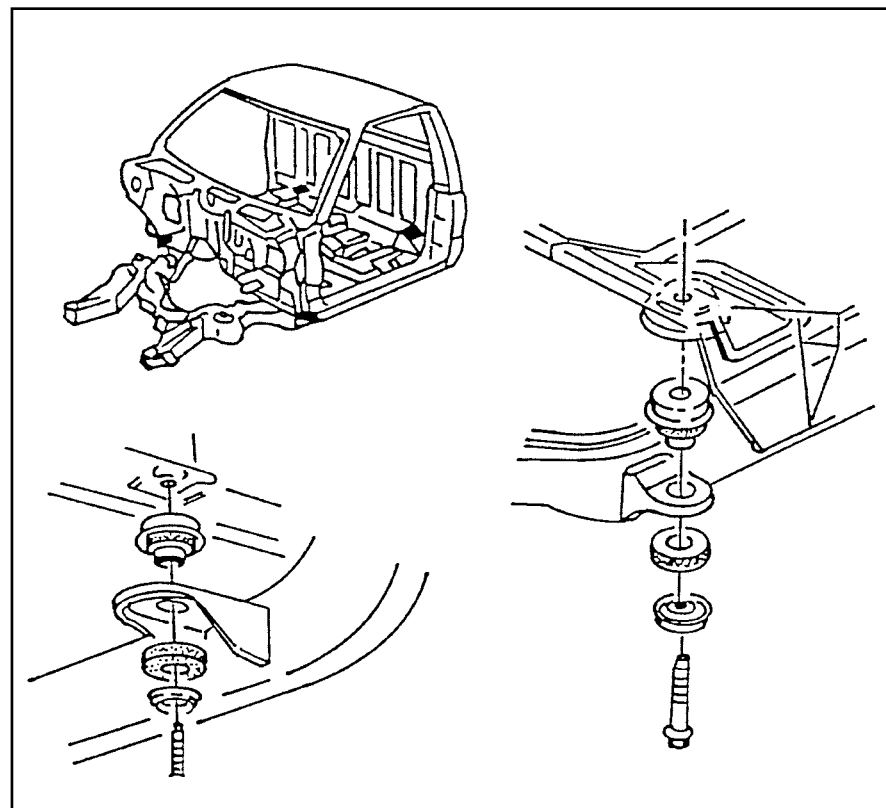

Figure 20
- Avoid mounting bodies directly to the top of the frame. Doing so restricts frame torsional flexibility. It may also promote body cracking and provide a direct path for chassis noise, vibration and harshness (NVH). Figure 20 shows typical body mounts.